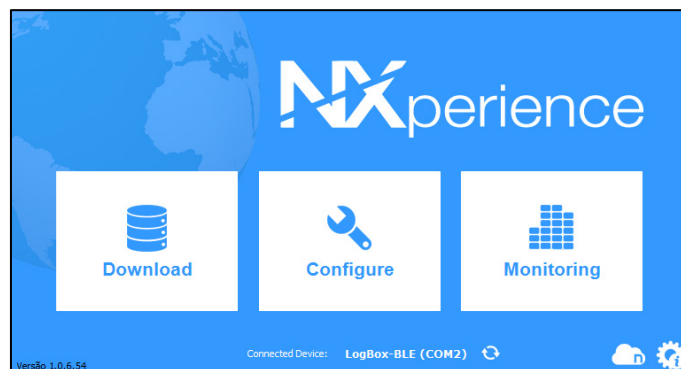
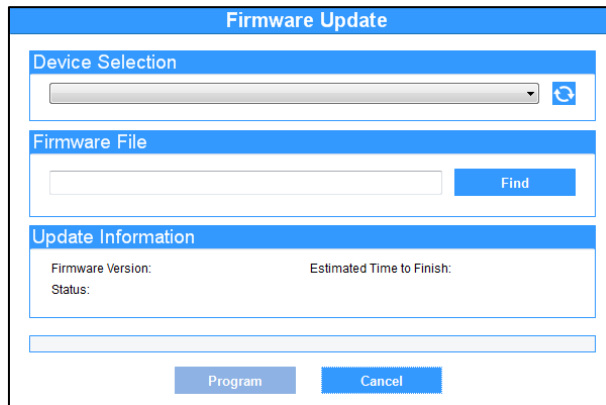

Fig. 59 – NXperience home screen
Fig. 60 – Firmware update
- f. On the **NXperience** startup screen, as shown in **Fig. 59**, pressing the Ctrl + Shift + F12 keys simultaneously will cause the firmware update screen to reappear, as shown in **Fig. 60**.